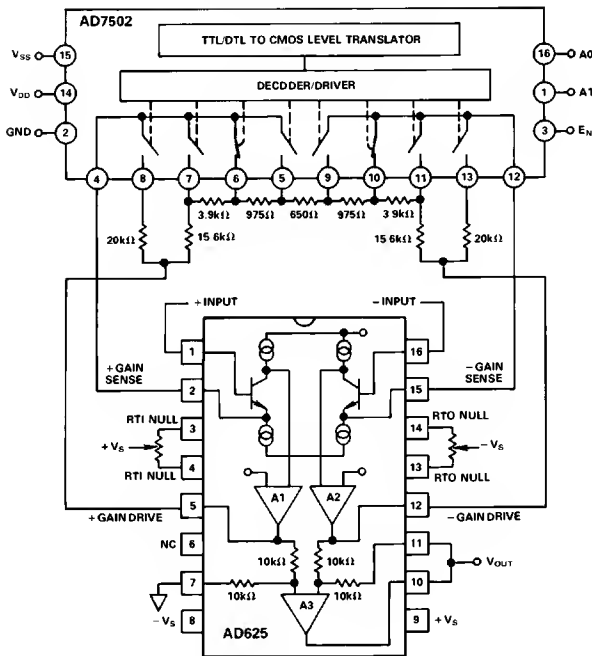

Figure 38. SPGA in a Gain of 16
Figure 38 shows an AD625 based SPGA with possible gains of 1, 4, 16, 64. R_G equals the resistance between the gain sense lines (Pins 2 and 15) of the AD625. In Figure 38, R_G equals the sum of the two 975 Ω resistors and the 650 Ω resistor, or 2600 Ω . R_F equals the resistance between the gain sense and the gain drive pins (Pins 12 and 15, or Pins 2 and 5), that is R_F equals the 15.6 k Ω resistor plus the 3.9 k Ω resistor, or 19.5 k Ω . The gain, therefore equals:
can be used to calculate the necessary feedback resistors for any set of gains. This formula yields a network with a total resistance of 40 kΩ. A dummy variable (j) serves as a counter to keep a running total of the preceding feedback resistors. To illustrate how the formula can be applied, an example similar to the calculation used for the resistor network in Figure 38 is examined below.
- 2) Before making any calculations it is advised to draw a resistor network similar to the network in Figure 41. The network will have $(2 \times M) + 1$ resistors, where M = number of gains. For Figure 38 $M = 3$ (4, 16, 64), therefore, the resistor string will have 7 resistors (plus the two 20 kΩ “side” resistors for unity gain).
- 5) If different resistor values are desired, all the resistors in the network can be scaled by some convenient factor. However, raising the impedance will increase the RTO errors, lowering the total network resistance below 20 kΩ can result in amplifier instability. More information on this phenomenon is given in the RPGA section of the data sheet. The scale factor will not affect the unity gain feedback resistors. The resistor network in Figure 38 has a scaling factor of $650/625 = 1.04$, if this factor is used on R_{F_1} , R_{F_2} , R_{F_3} , and R_G , then the resistor values will match exactly.